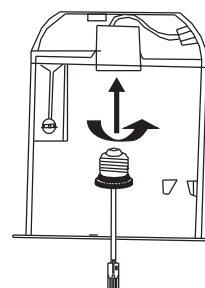

Fig 1
2. As shown in Fig 1, twist the lamp base into the lamp holder.